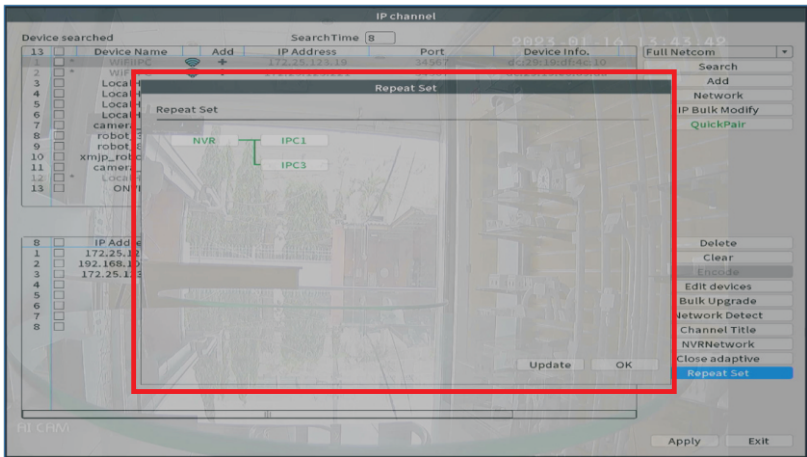

Figure 3. Diagram of NVR and connected cameras.
- A dialog box will appear on screen showing diagram of the NVR and connected cameras. Take note of the camera that you will set as repeater and the camera to connect on it (the camera unit which is a bit distant to the NVR reception). As an example, IPC1 will be used as repeater and the IPC 3 as the camera to be repeated. See Figure 3